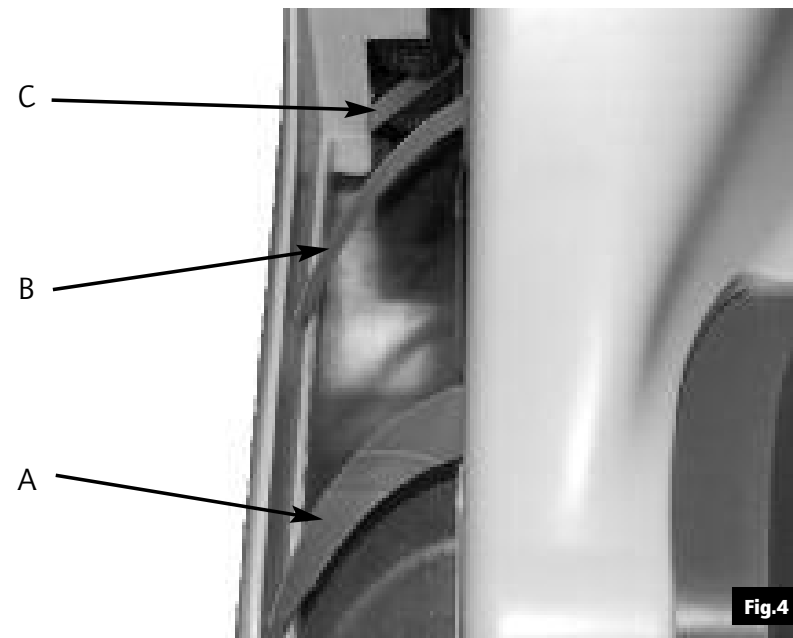

Fig.4
- During unpackaging, do not remove or pull the Mylar blades A, B and C (see Fig.4).